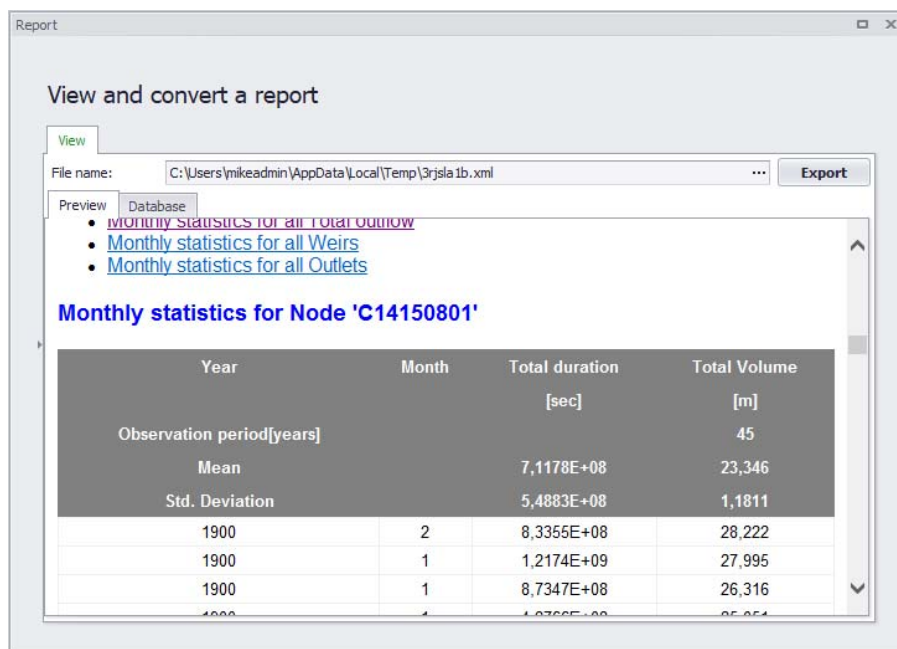

Figure 20.73 Example LTS chronological statistics report
- Click on the ‘OK’ button to create a new LTS chronological statistics report. An example is shown in Figure 20.73. Note that it is not possible to customize data series labels (i.e. Edit alias) for LTS reports, nor is it possible to edit existing LTS reports from the dialog.